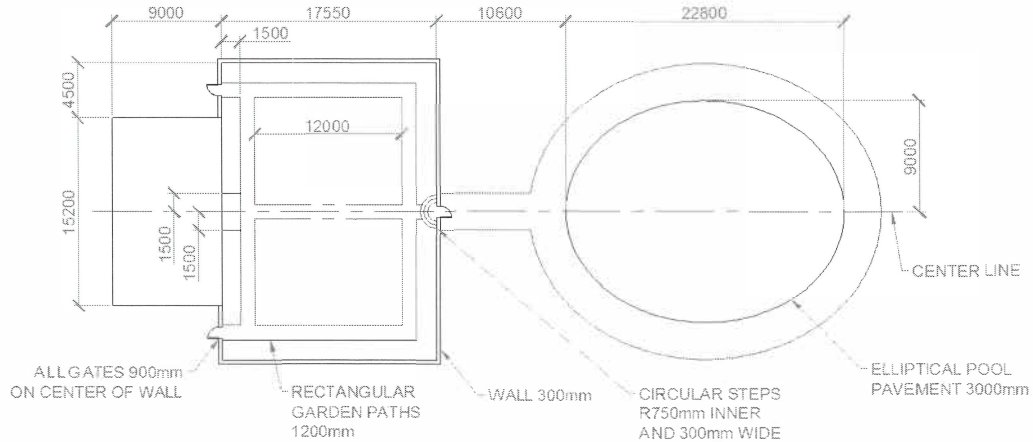

Figure 3–6
In this project, you will create a formal garden plan. Use a construction line to establish the center line, and then use tracking and other methods to help place the various components as shown in Figure 3–6. The dimensions are for reference only. You are not required to draw them.
2. In layer **0**, draw the **9000 x 15200 building** (extreme left rectangular object in Figure 3–6) with the **1500 x 3000 porch** along the backside center, as shown in Figure 3–6.